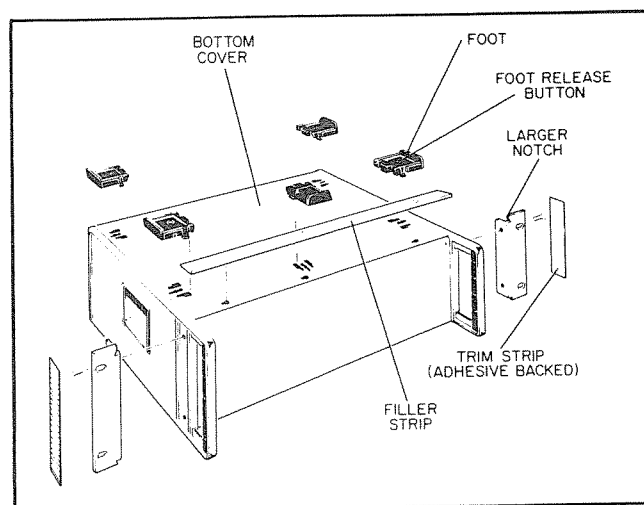

Figure 2-2. Conversion for Rack Mounting
2-27. The HP 5061B is shipped from the factory ready for operation as a bench instrument. Parts necessary to convert the HP 5061B for rack mounting are available as a kit. To convert for rack installation, refer to Figure 2-2 and proceed as follows:
- d. Attach mounting brackets to sides with larger corner notch toward bottom of cabinet. See Figure 2-2. The HP 5061B is ready to mount in a standard 19-inch rack.